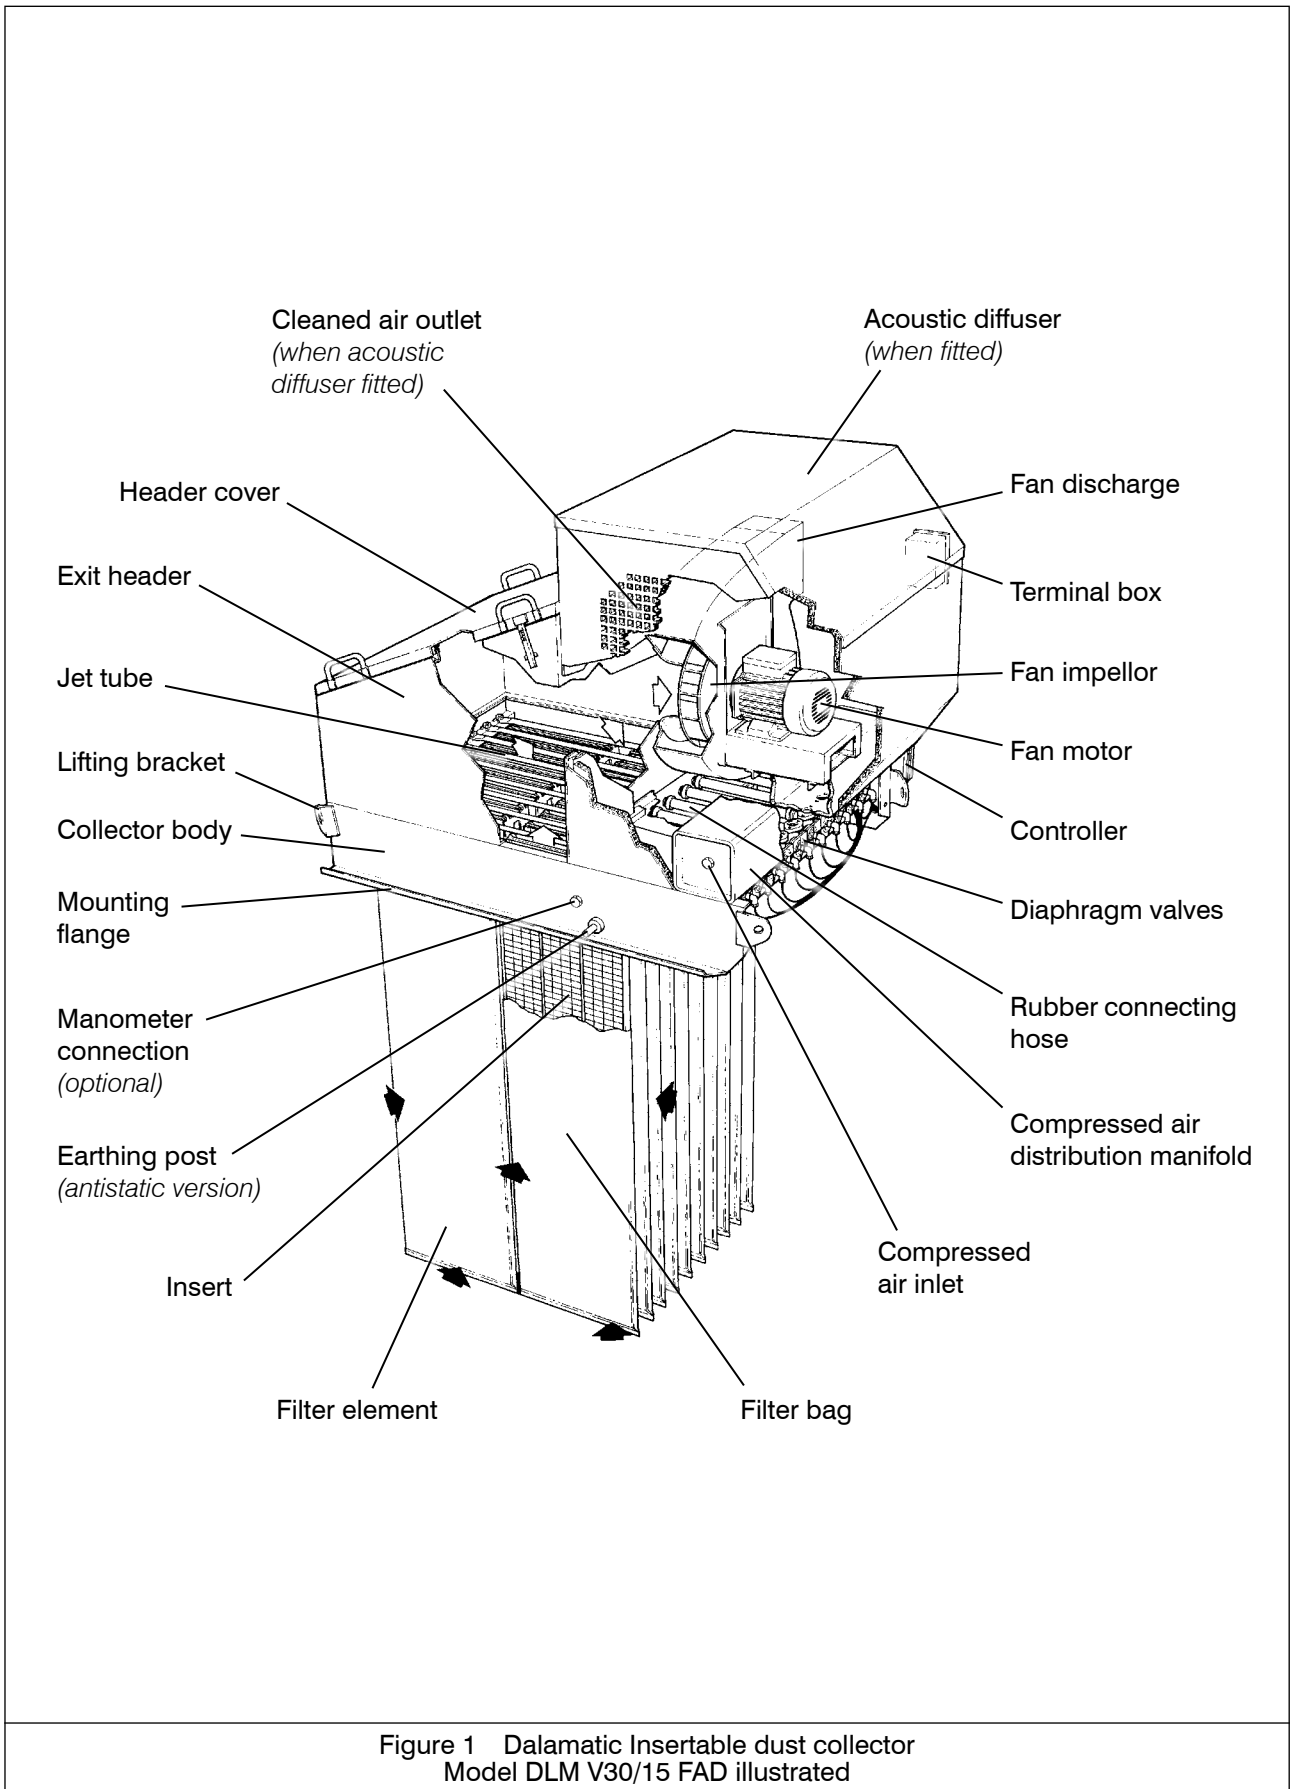

Figure 1 Dalamatic Insertable dust collector
- 5 Remove header cover if fitted (see fig. 1).
- 19 Replace header cover if applicable (fig. 1).
On dust collectors fitted with an IPC ( $\Delta P$ ) Controller or Delta P-C01 Controller, the cleanside and dirtyside tapping points require connecting using the  $\Delta P$  connection kit supplied. The cleanside tapping point should be connected to the manometer connection identified in figure 1. The dirtyside tapping point should be connected as shown in figure 13.
It is particularly important on collectors having antistatic features and/or explosion stiffening, that the earthing post (located adjacent to the symbol, shown opposite) is properly connected to earth, using the brass screw provided, to prevent any static build-up (refer also to fig. 1).